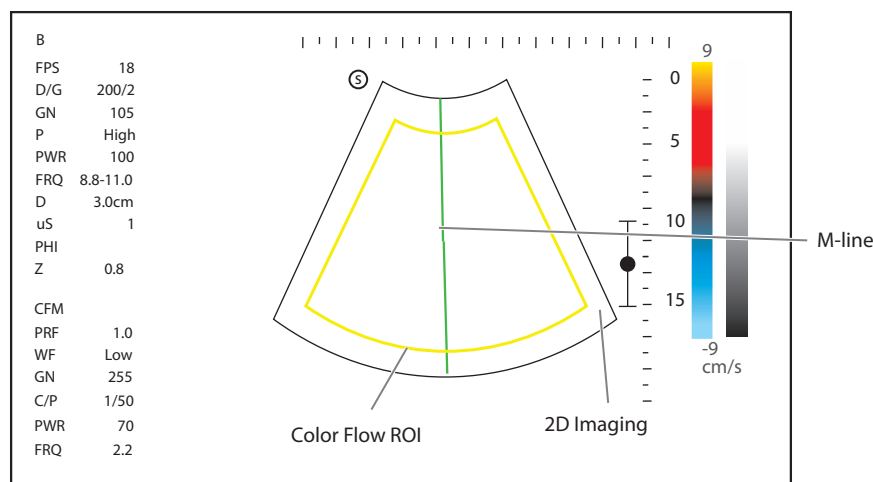

Figure 6-23 Pre-activated B+CFM/TDI +M-Mode Imaging Screen
2. Press the **M** key on the control panel to enter the pre-activated B+CFM/TDI+M mode. The basic screen is shown in Figure 6-23.